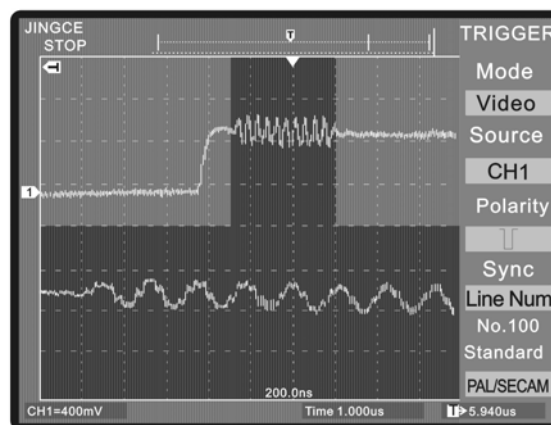

Figure 3-6 Demonstrating line100 color synchronization signal by delaying scan or video trigger mode
5. Adjust the vertical POSITION、VOLTS/DIV、 SEC/DIV to see a complete waveform on the screen. See Figure 3-6 and Figure 3-7.